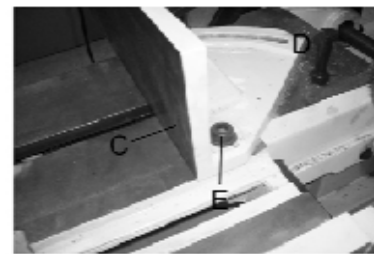

Fig.13
1. Pivot the right vise jaw (C) Fig. 13. All the way to the right, and lock spring loaded clamp handle (D).
2. Using a combination square (E), place one end of the square against the vise jaw and the other end against the blade as shown in Fig. 13. Check to see if the vise jaw is 90 degrees to the blade.